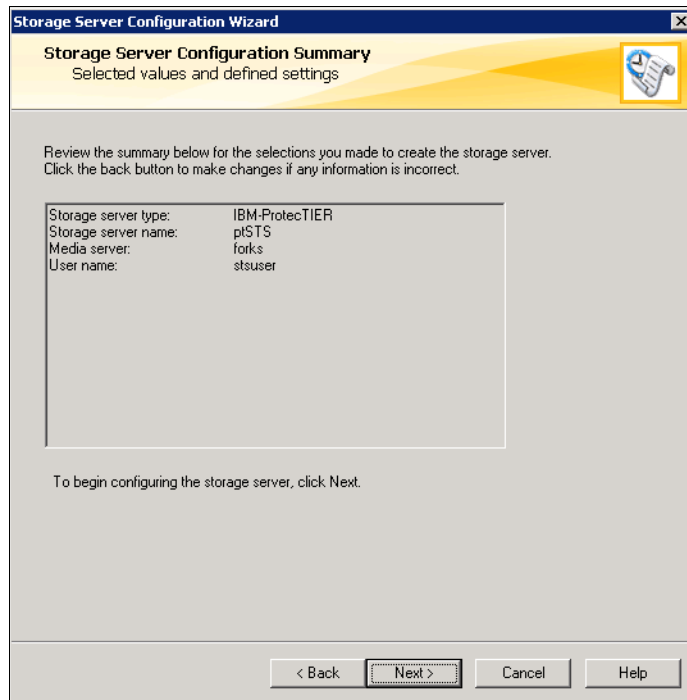

Figure 9-20 Storage server setting input parameter display window
5. Figure 9-20 shows a summary of the settings. Review them, and if you are satisfied, click **Next**; otherwise, click **Back** and make any necessary changes.